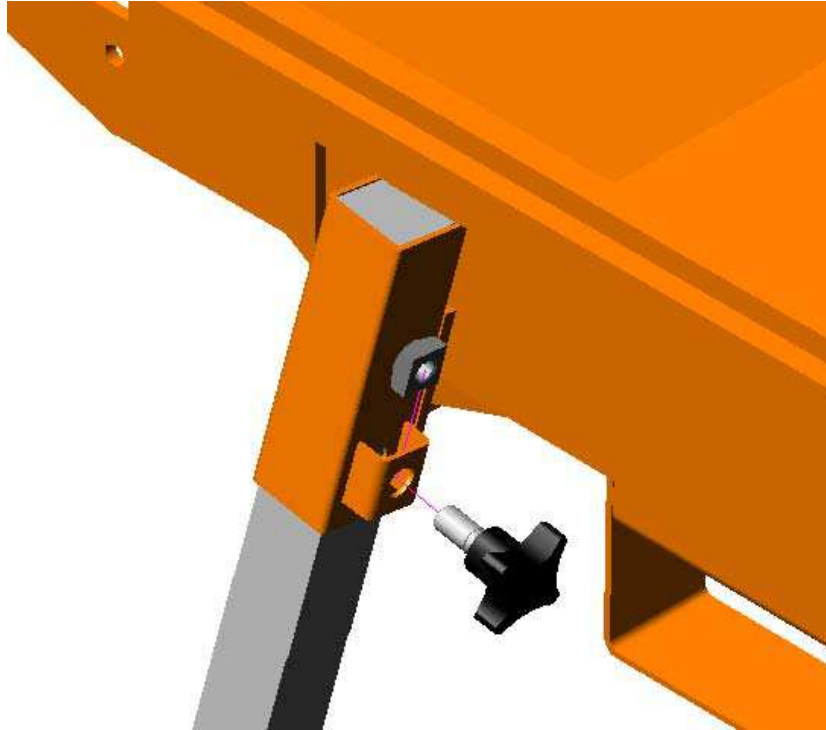
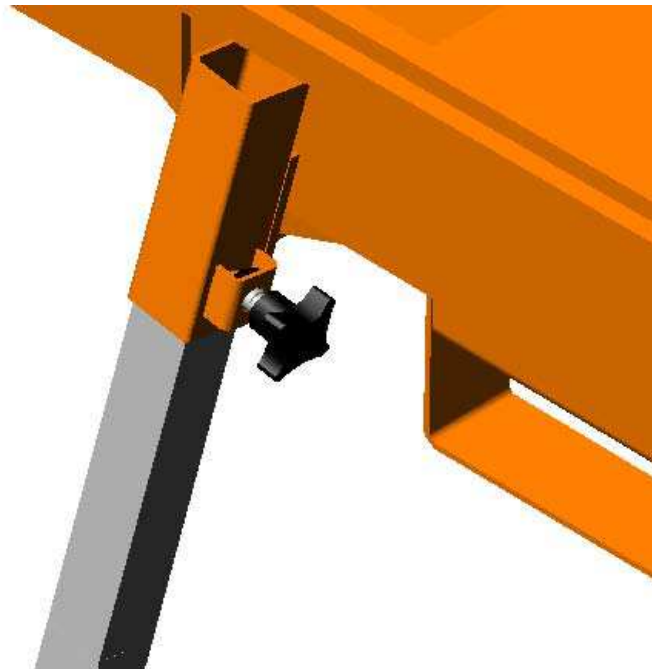

Figure 4: Plastic Knob Attachment
Figure 5: Leg Attachment
Remove the four (4) Legs from the Saw Water Pan, and the four (4) Plastic Handle Knobs and four (4) Square Nuts from the plastic bag. Place one (1) Square Nut into each of the Nut Retaining Brackets located on each of the Leg Holders. Attach one (1) Plastic Knob to each of the Square Nuts as shown in **Figure 4: Plastic Knob Attachment**. NOTE: Do not tighten Plastic Knobs at this time. Place one (1) Leg into each of the Leg Holders and tighten the Plastic Knobs see **Figure 5: Leg Attachment**.